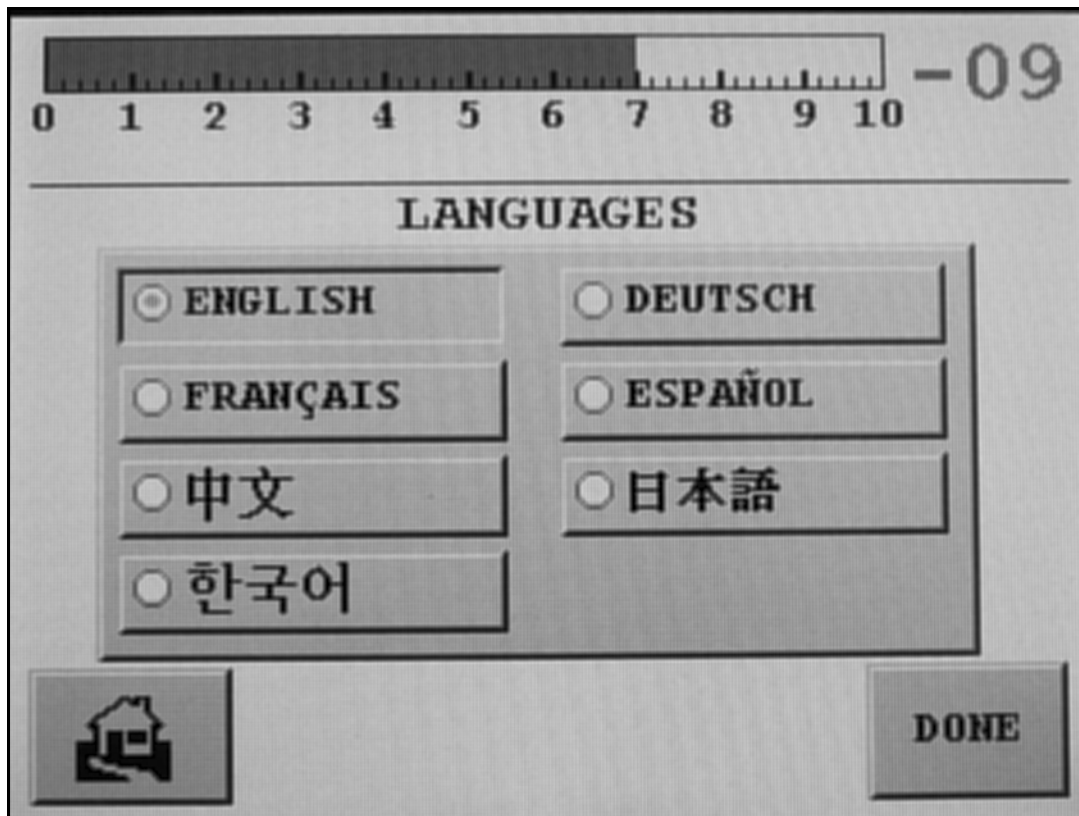

Figure 2-21 Languages
- Press **Language Set-Up** on the Set-Up screen and the Languages screen appears (Figure 2-21).